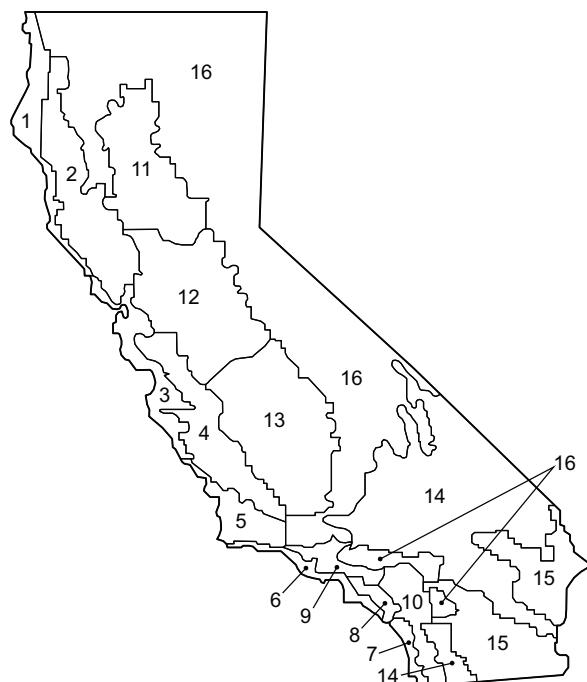

Fig. 80 — California Title 24 Zones
- Refer to Fig. 80 for map of California Title 24 zones.